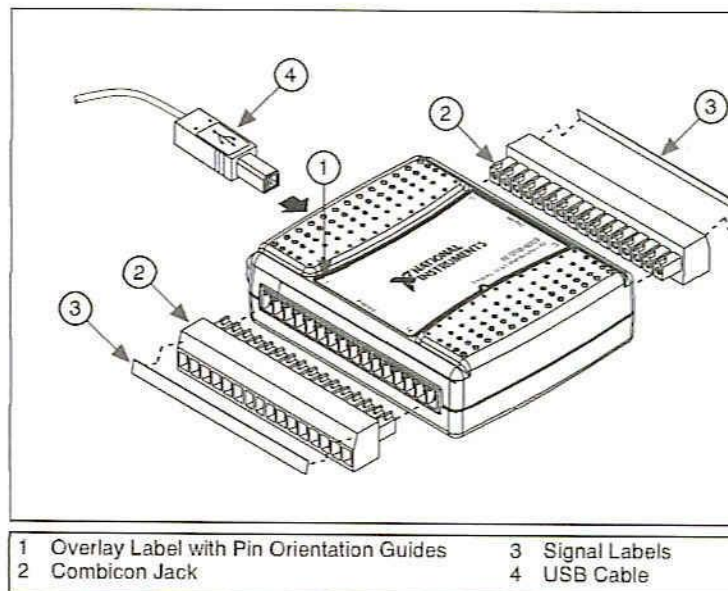

Figure 4. Signal Label Application Diagram
2. Refer to Table 3 and Figure 4 for signal label orientation and apply the provided signal labels to the screw terminal blocks. Until the signal labels are applied, you can insert the screw terminal blocks into the combicon jacks.